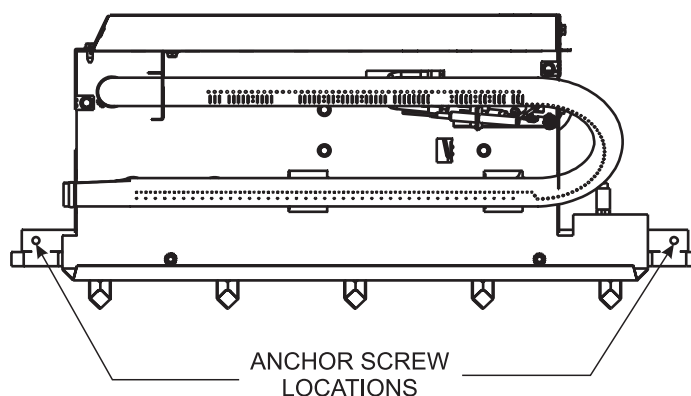

Figure 10
2. An anchor hole is provided in the two bottom side members of the grate frame. After centering the grate correctly, mark the hole positions on the fireplace/firebox floor. Drill two (2) 5/32" diameter holes approximately 1-1/2" deep for masonry screws or 1/8" hole for sheet metal screws.
3. Anchor the grate to the fireplace/firebox floor using the screws provided. Refer to Figure 10.